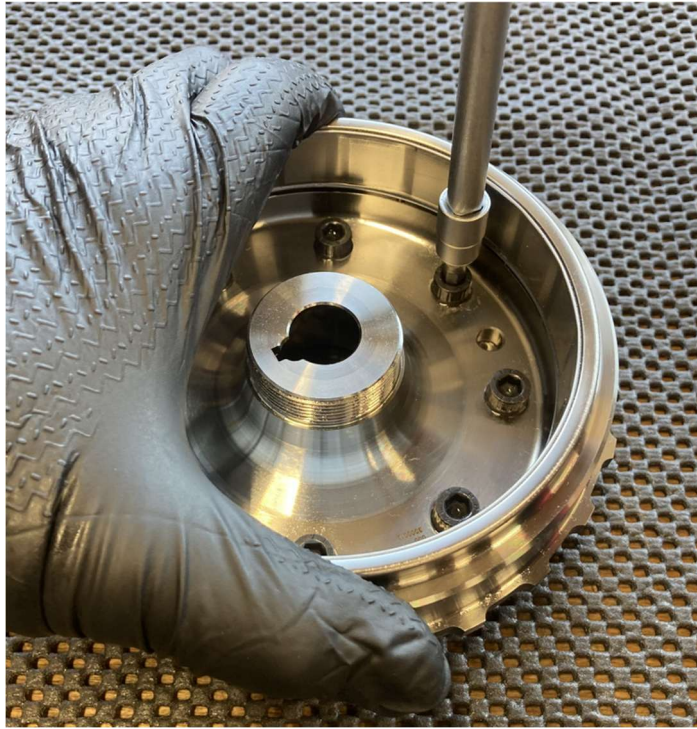

Fig.:1 Place and secure the rotor.
- Place the rotor on a clean, non-slip surface and secure it by hand to prevent it from turning, see Fig. 1.